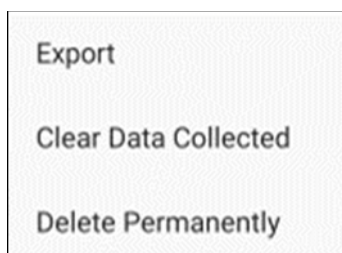

Figure 102: Data menu
3. Tap the three green dots on the top-right of the screen, as shown in Figure 102.